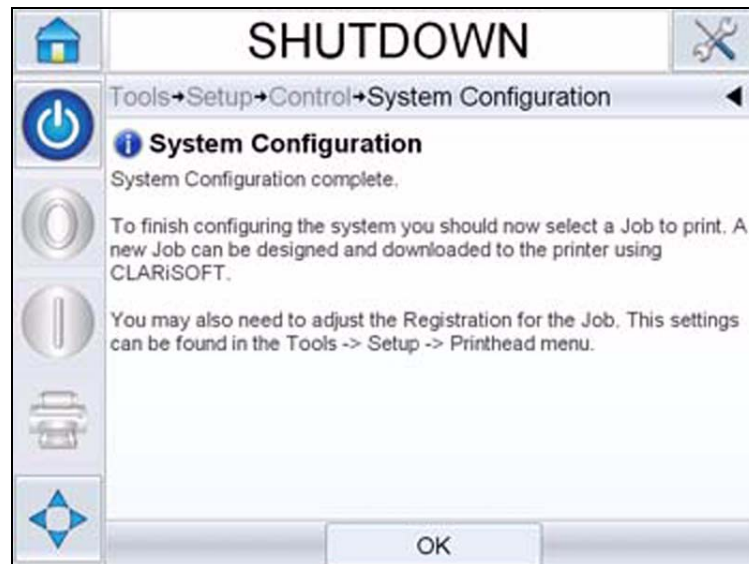

Figure 5-15: System Configuration Complete
- 6 Touch *Next*, to complete system configuration (see Figure 5-15).